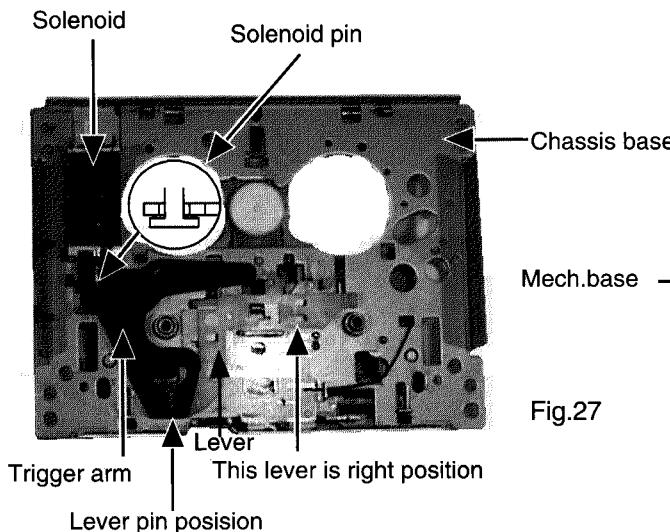
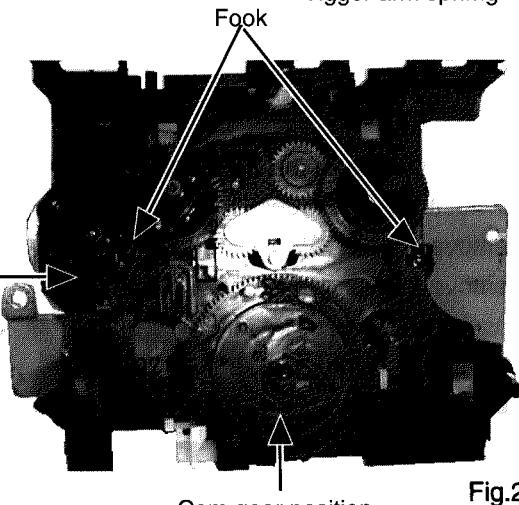

Fig.27
Fig.28
1. Set the Levers and Gear position as shown in the figure below.(Fig.27, Fig.28 ) ( Head position : Forward)